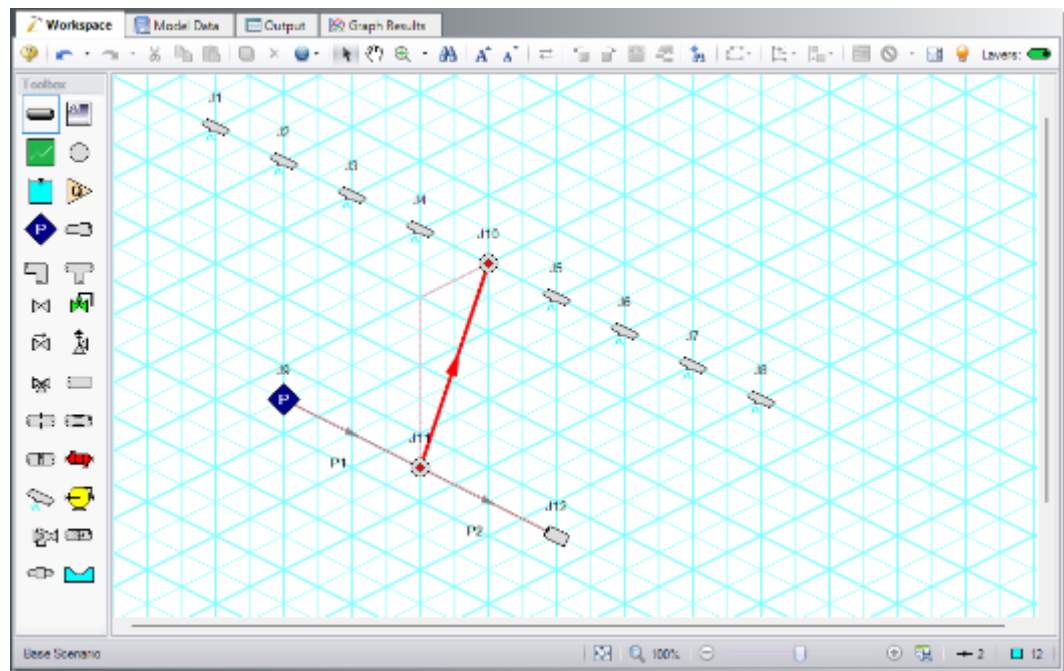

Figure 3.12 A preview line is shown when drawing or adjusting pipes in the Isometric Drawing Mode
11. Draw Pipe P3 from J11 to J10. A red-dashed preview line will show how the pipe will display on the isometric grid. Change the preview line by clicking any arrow key on your keyboard or scrolling the scroll wheel on your mouse. Figure 3.12 shows Pipe P3 with the preview line.